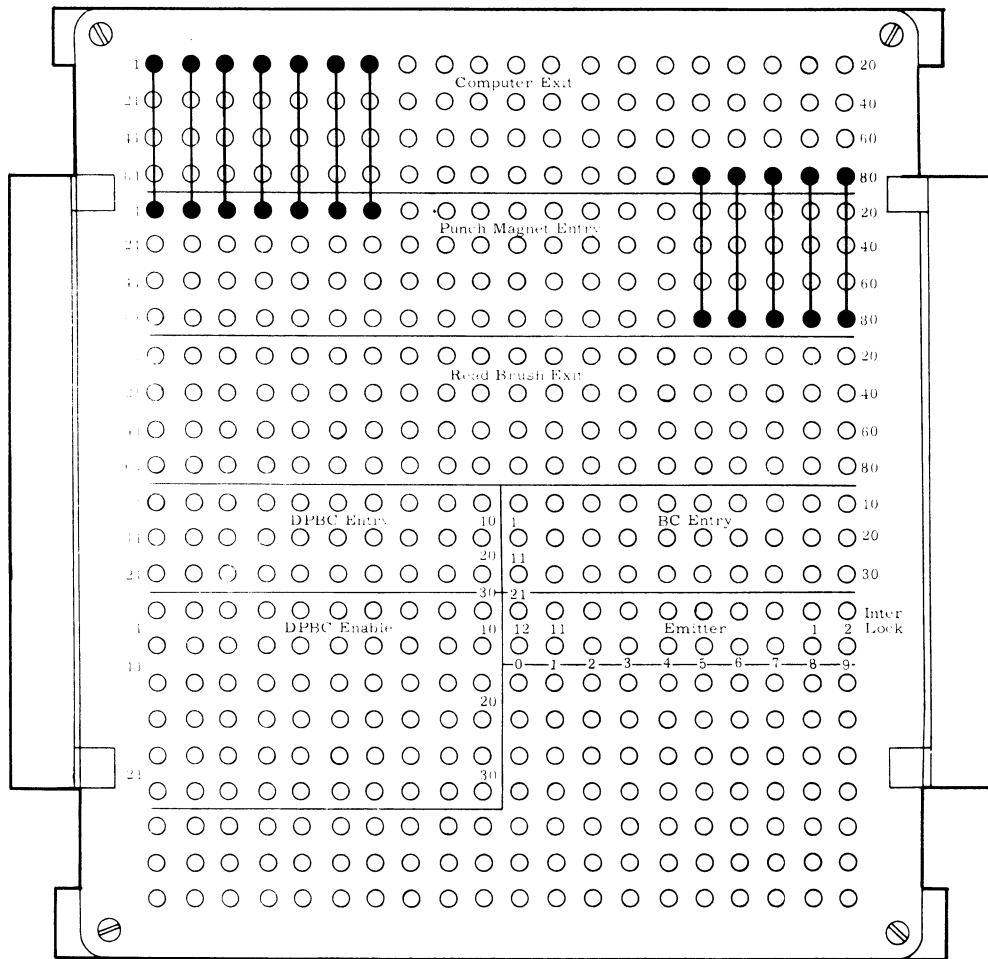

Figure 37. Plugboard Wiring for Exact Reproduction of Central Processor Information
2. For on-line operation, always wire from the COMPUTER EXIT hubs to PUNCH MAGNET ENTRY hubs. For exact reproduction of information received from the computer, wire COMPUTER EXIT hubs labeled 1 through 80 to the corresponding 1 through 80 numbers of the PUNCH MAGNET ENTRY hubs. (See Figure 37.)